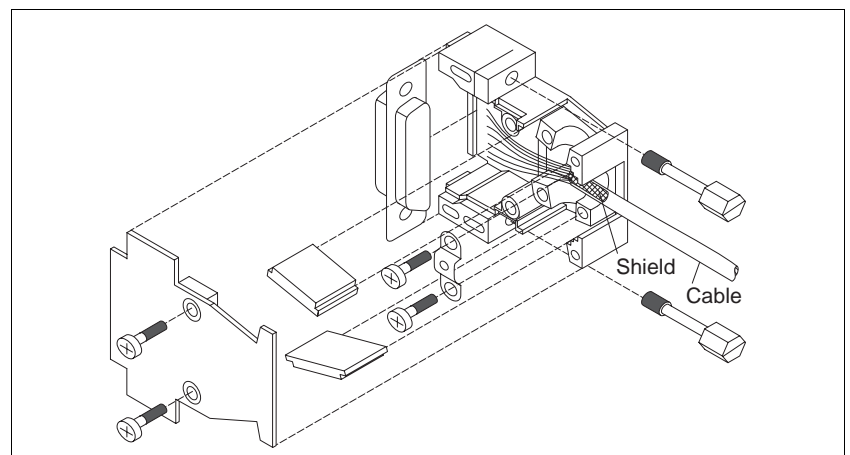

Fig. 2-18 Interface connector assembly
3. Insert two hexagon head bolts (fig. 2-18) into the connector shell.